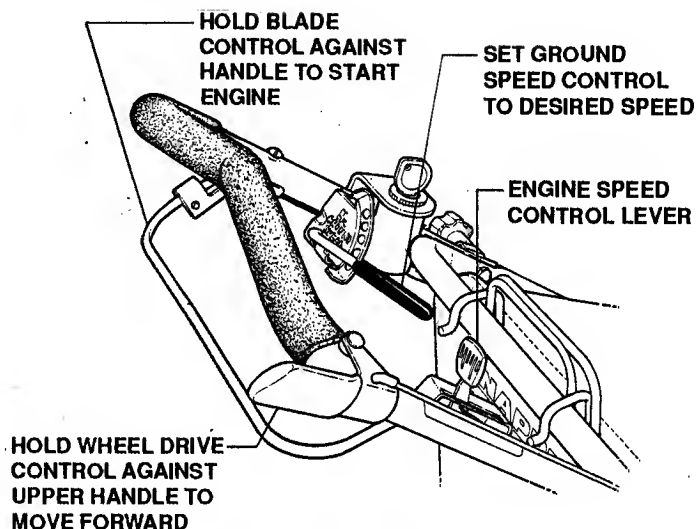

FIGURE 2.2
- 4. Turn ignition key to "START" position and hold until engine starts, then release. See Figure 2.2.